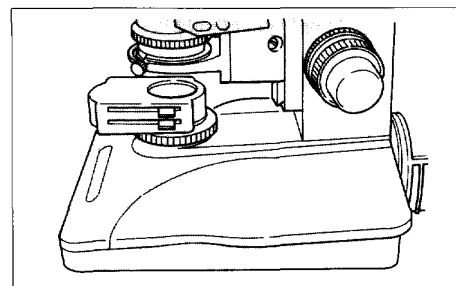

Fig. 2-20
- When frequently lowering the microscope stage, mount the ND filter cassette in the direction as shown in Fig. 2-20.